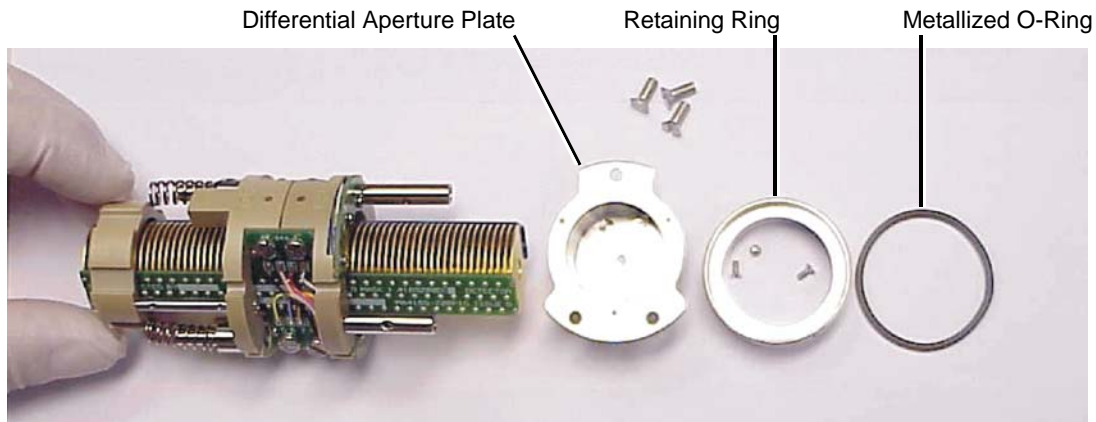

Figure 7-5 Source T-Wave Assembly Components
5. Remove the differential aperture plate from the assembly. The source T-Wave assembly components are shown in Figure 7-5.